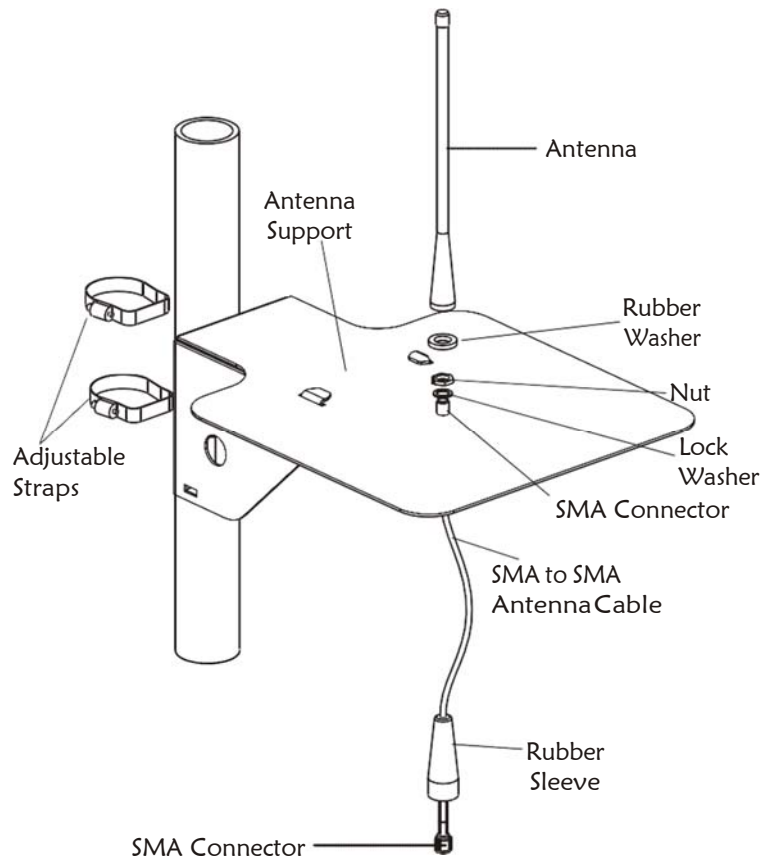

Figure 27
1. Connect a flexible antenna to the antenna support plate using rubber washers, lock washer and a nut (see Figure 27).